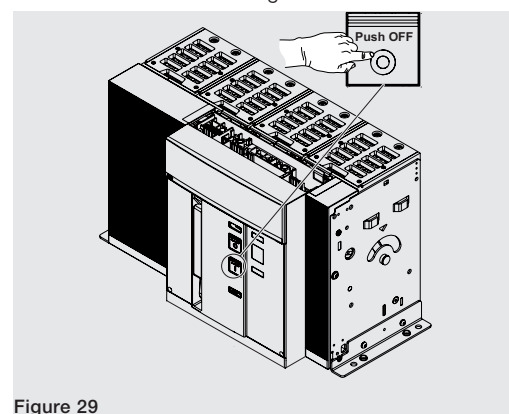

Figure 29
6. Opening - Press the opening pushbutton "O - Push OFF" as indicated in Figure 29.